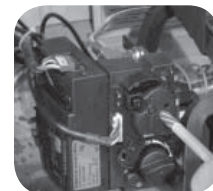
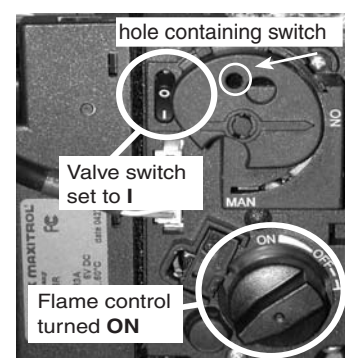

Fig. 17-1
Fig. 17-5
- D. G10-01V(P) - Set control to manual. Press O/I to I. (see Fig. 17-5) Use a pen tip to activate the switch inside the hole as shown in Fig. 17-1.